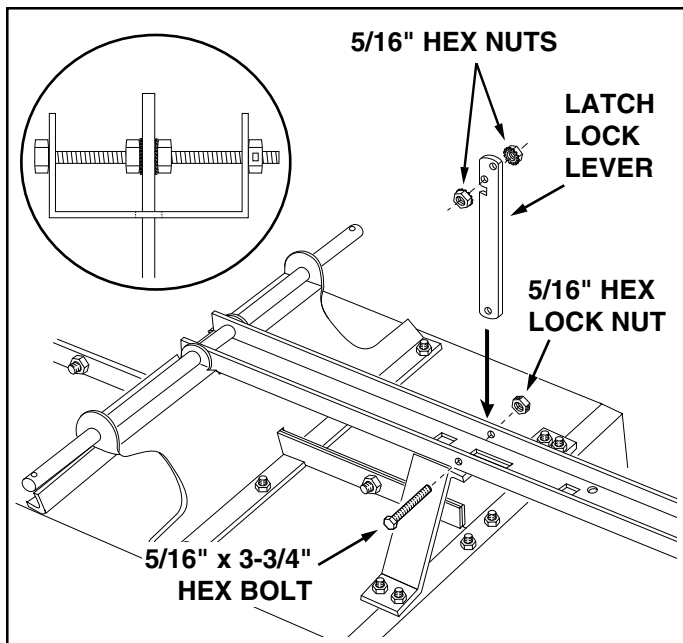

FIGURE 10
15. Place the latch lock lever through the slot in the draw bar tongue as shown in figure 10. Assemble the 5/16" x 3-3/4" hex bolt through the tongue, the lever and two 5/16" hex nuts (one on each side of the lever). Assemble the 5/16" hex lock nut onto the end of the bolt and **tighten** so that the bolt can still rotate freely. **Tighten** the two 5/16" hex nuts against the sides of the latch lock lever so that the lever is centered in the slot. See figure 10.